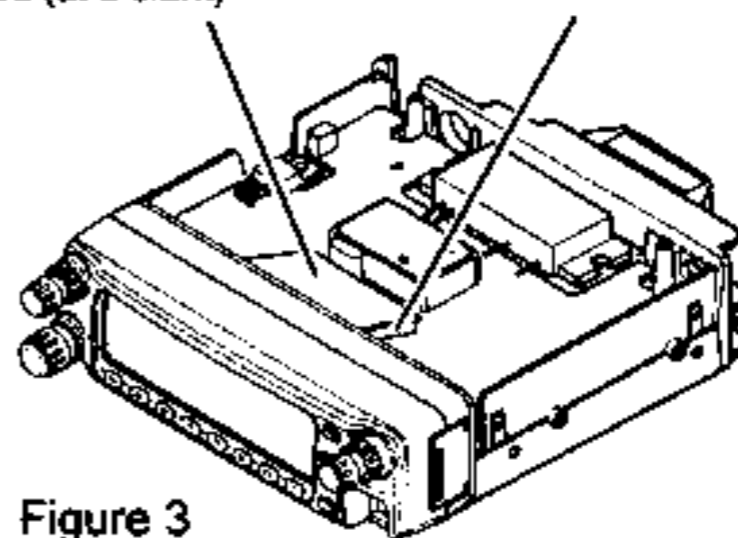

Figure 3
- Referring to Figure 3, turn the FTS-22 bottom side up. Insert the FTS-22 between the VCO shield case and mainchassis.